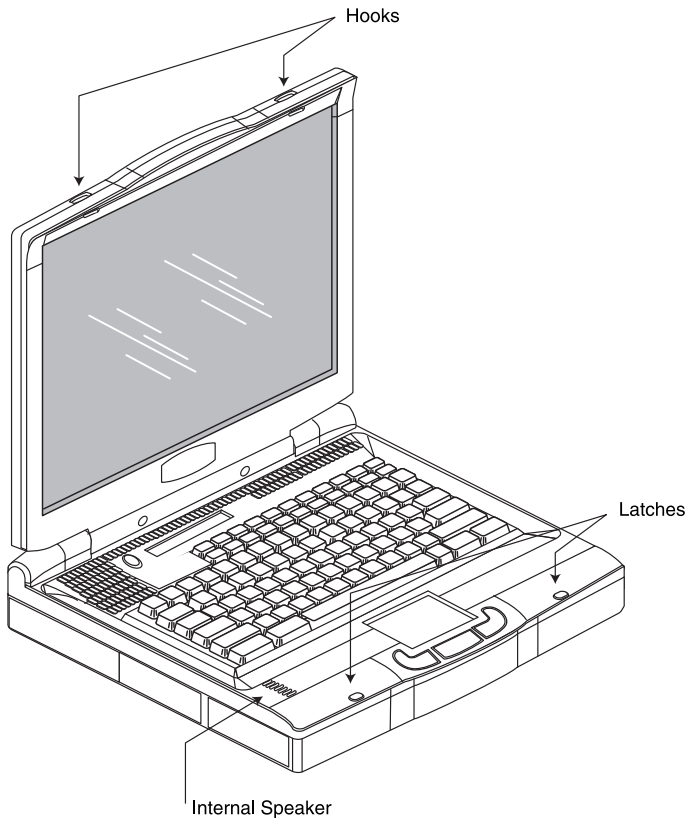

Figure 3-1 Raising the Display Cover
1. Slide the two display cover hooks outward to the left and right sides of the unit (see Figure 3-1).